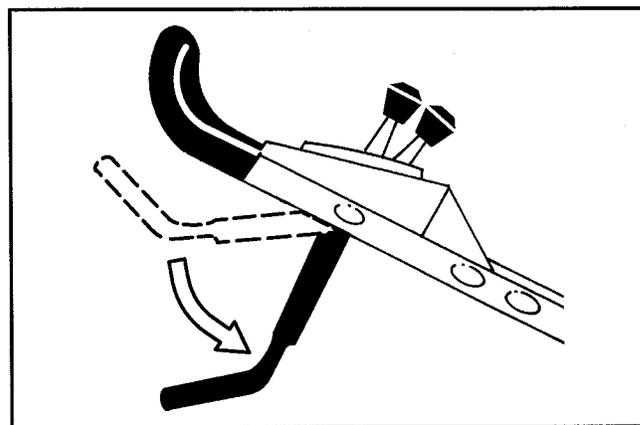

Figure 17
4. Release the control bar (Fig. 17).